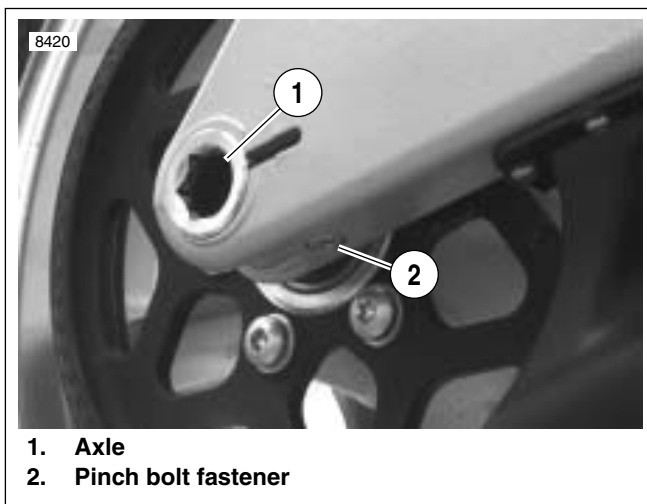

Figure 6-41. Rear Wheel Mounting, Right Side
1. See Figure 6-41. Loosen rear axle pinch fastener (2).
5. See Figure 6-41. Install and tighten rear axle (1) to 23-27 ft-lbs (31.2-36.6 Nm), back off two full turns and then retighten to 48-52 ft-lbs (65.1-70.5 Nm). See 6.6 DRIVE BELT SYSTEM.
6. Tighten rear axle pinch fastener (2) to 40-45 ft-lbs (54-61 Nm).